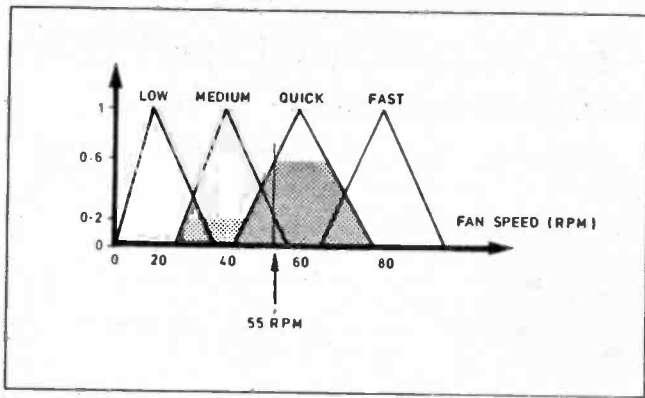

Fig. 6. Calculating the "centre of gravity" point.
Step 3, Defuzzification, combines the truth values of each of the rules and uses one of several techniques to produce a crisp output value. Fig. 6 illustrates the membership functions of the output fan speed with truth values applied (the shaded region). Using a defuzzification method known as "centre of gravity", the COG point in the shaded region is calculated at 55 r.p.m. (by integration).